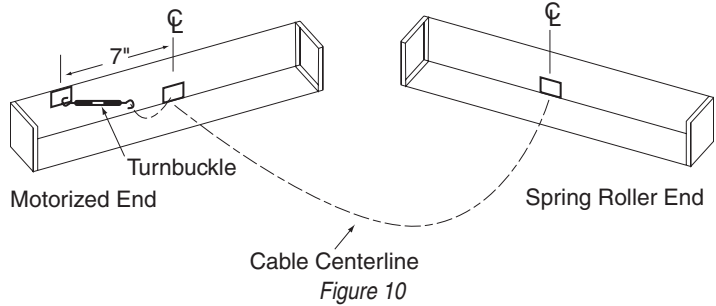

Figure 10
- ① Make sure Skylight unit is square.
- ② Fasten cable support plates to structure through outboard holes in plate (see Fig. 10). Installer will need to provide fasteners appropriate to site conditions.
- ③ Attach loop at one end of cable to hook on cable attachment plate at spring roller headbox. Run cable the full length of the opening, and through the hole at the lower plate in the motor end headbox.
- ④ Attach remaining cable loop to turnbuckle, which in turn attaches to upper cable attachment plate in motor end headbox.
- ⑤ Tension cable by tightening turnbuckle until cable is straight. **NOTE: Do not overtighten, but make sure cable is as taut as possible. Loosen cable if the shade fabric has difficulty retracting to fully open.**